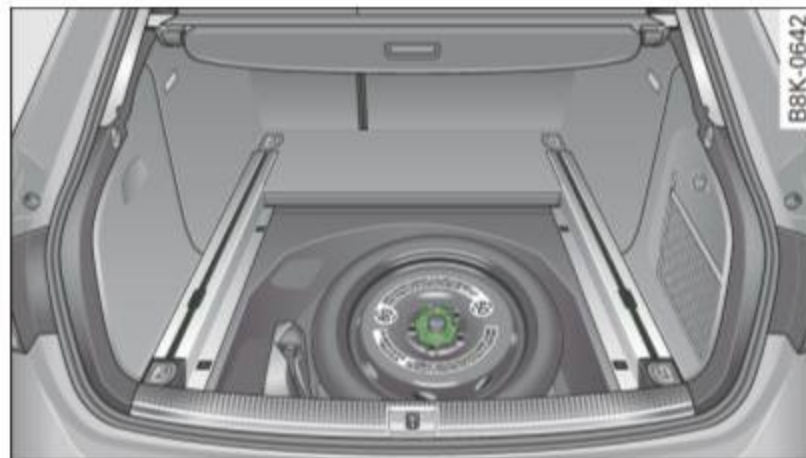

Fig. 227 Spare tire
- Turn the large screw ⇒ fig. 227 counter-clockwise.